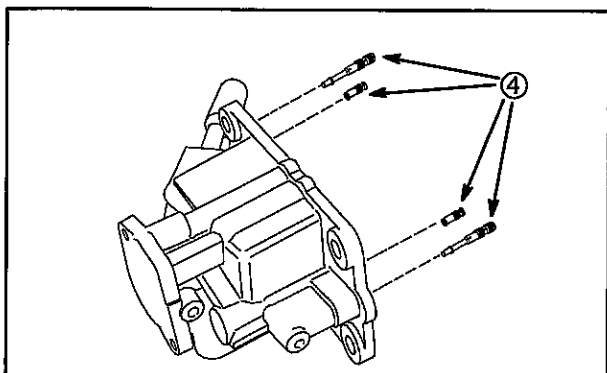

Fig. 131
3. Remove main jets (4) from float bowl, **Fig. 131**.